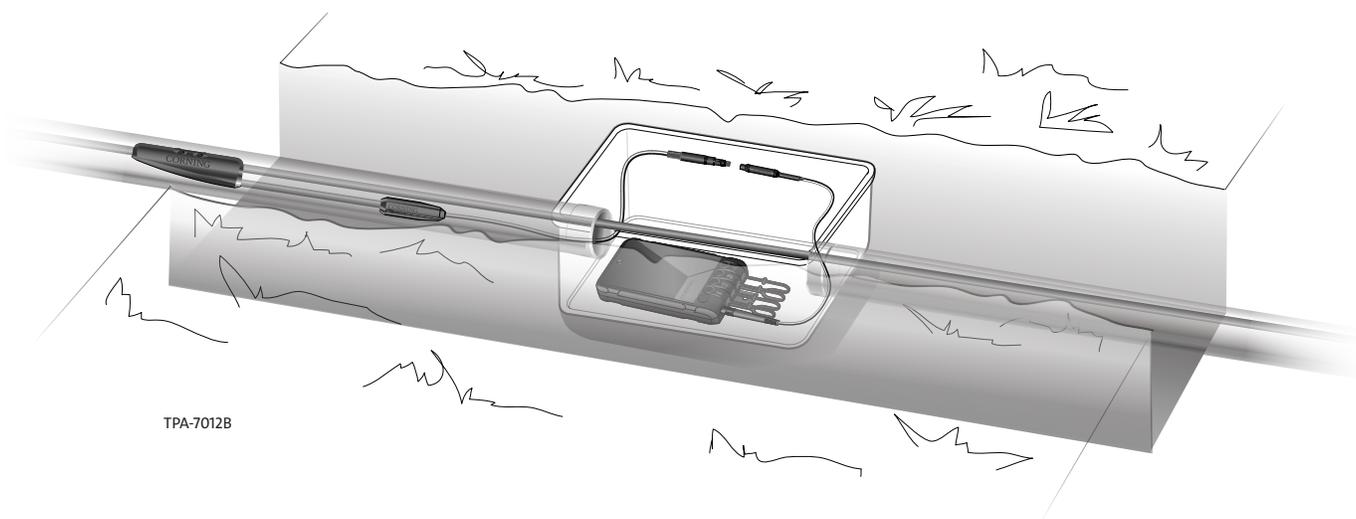

Figure 1
- 1.1 This procedure provides general information for duct installation of a Corning Optical Communications FlexNAP™ System cable assembly (Figure 1). These methods and instructions are intended only as guidelines, as each installation will be influenced by local conditions.